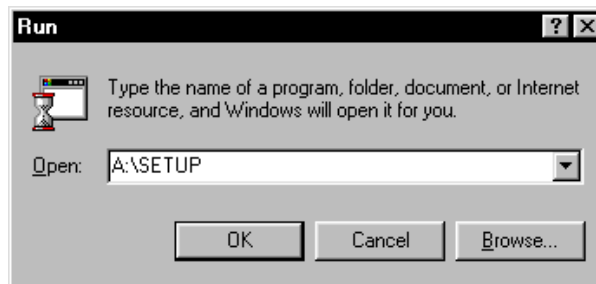

Fig. 7-2
3. When the RUN display appears, as in Fig. 7-2, type in A:\SETUP and click on OK.